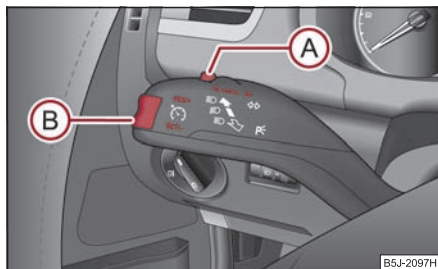

Fig. 128 Operating lever:
- Press the switch **(A)** ⇒ fig. 128 into the position **ON**.
- You can **increase** the stored speed without depressing the accelerator, by pressing the rocker button **(B)** ⇒ fig. 128 into the **RES+** position.
- Press the switch **(A)** ⇒ page 105, fig. 128 to the right into position **OFF**. ■